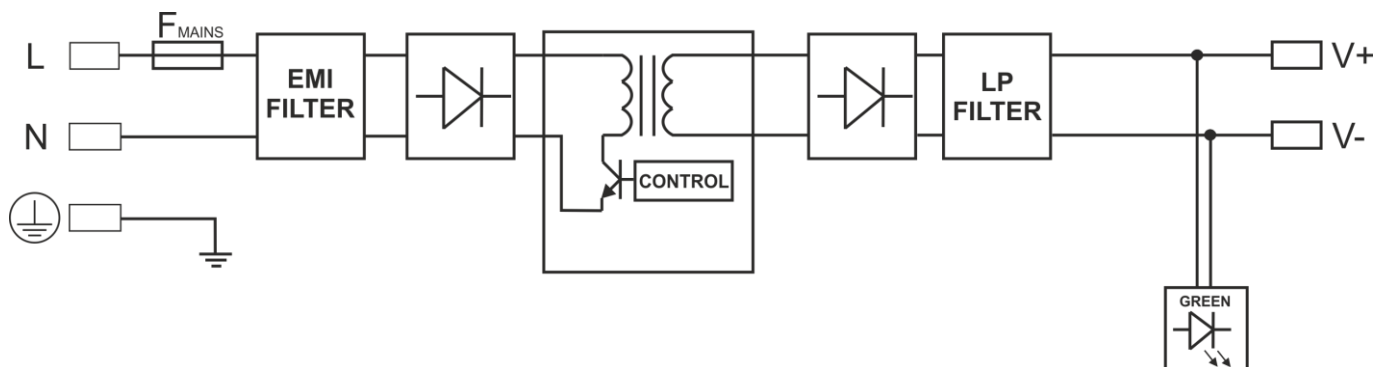

Fig. 1. Block diagram of PSU.
**1.2. Block diagram (Fig.1).**